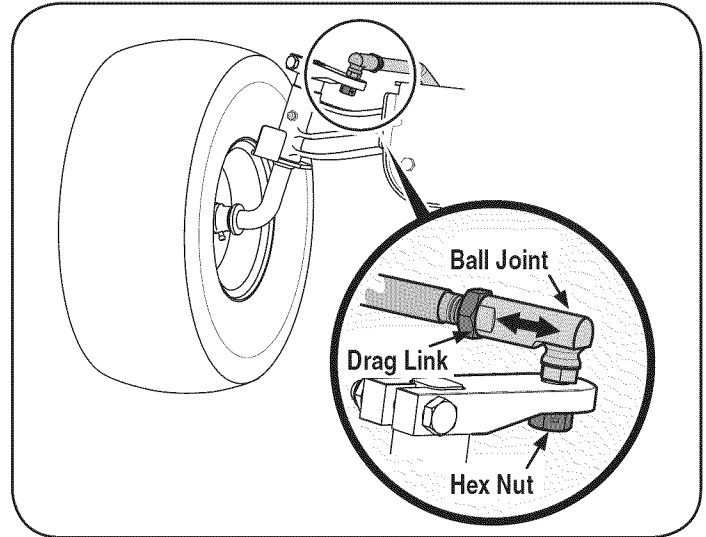

Figure 28
- Remove the hex nut below the ball joint. See Figure 28.